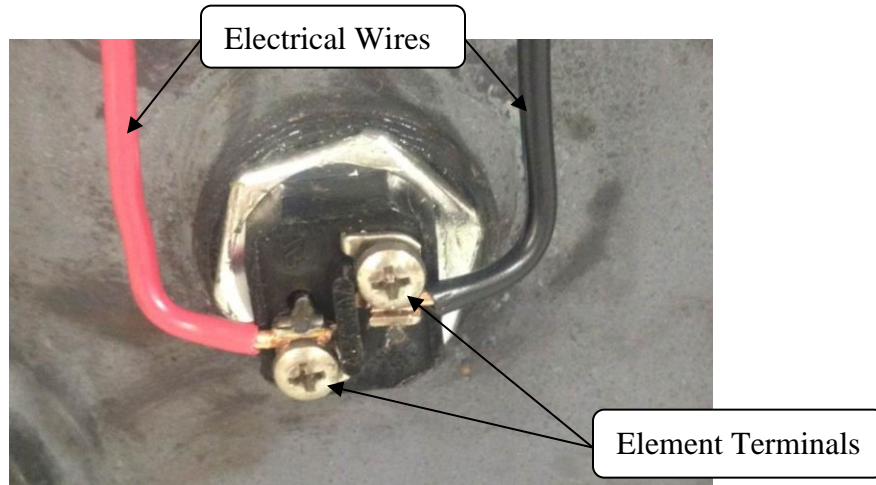

Figure 6. Electrical Wires and Element Terminals
2. Using a Phillips head screwdriver, disconnect the electrical wires from the element terminals (see Figure 6).